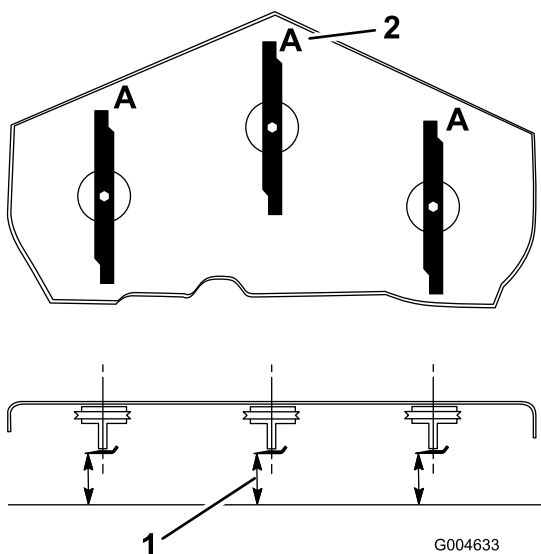

Figure 66
3. Rotate the blades until the ends face forward and backward (Figure 66). Measure from a level surface to the cutting edge, position **A**, of the blades (Figure 66). Note this dimension.